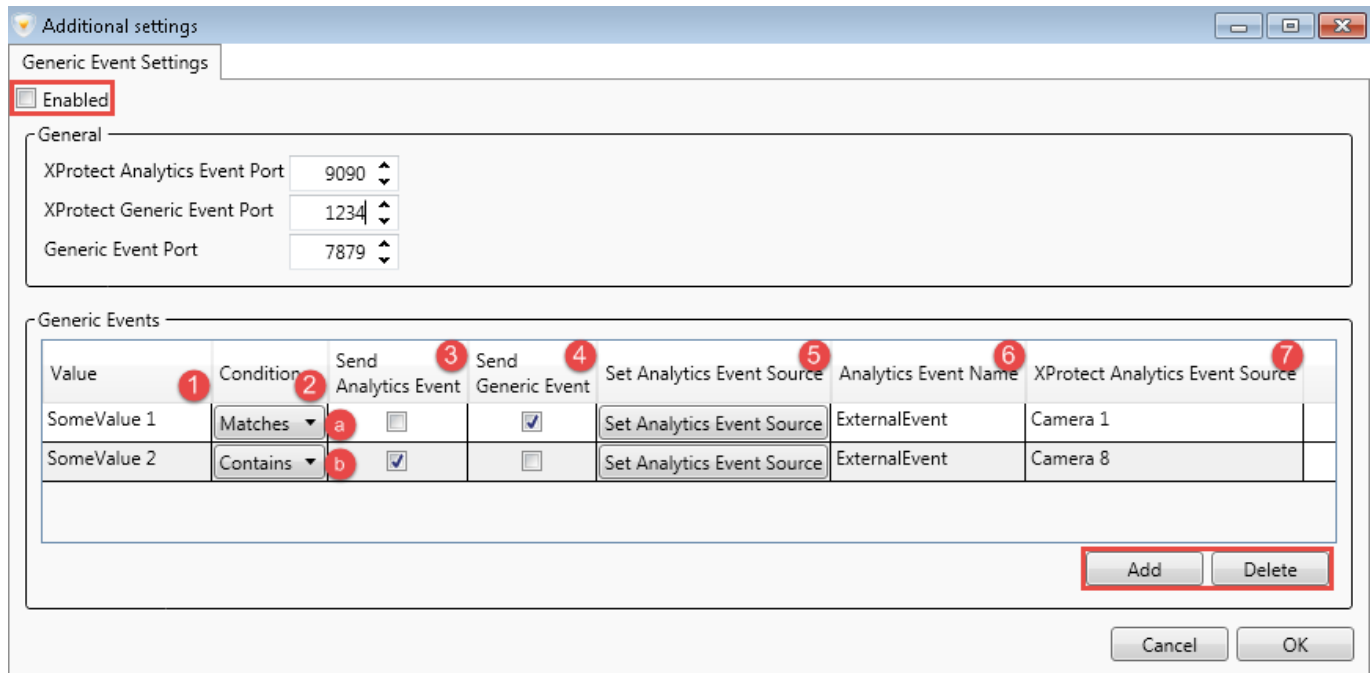

Figure 16: Receiving generic events within **Analytic Server** module
Select **Enabled** checkbox to activate this feature (Fig. 16).
3. **Send Analytics Event** — checkbox enables events to be redirected to **XProtect** system if they meet the condition. The event to be redirected is specified in **Analytics Event Name** field (Fig. 16, 6). After the **Set Analytics Event Source** button (Fig.16, 5) is used to select it, the name of the device sending the event is to be specified in **XProtect Analytics Event Source** field (Fig. 16, 7).